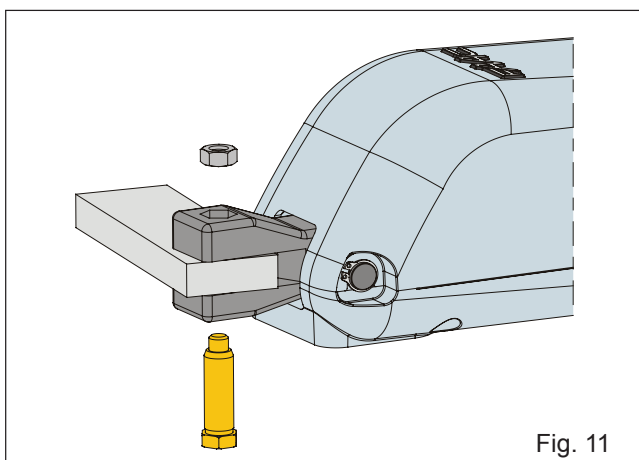

Fig. 11
8. Fix the operator to the rear bracket by means of the supplied pins as shown in Fig. 11.